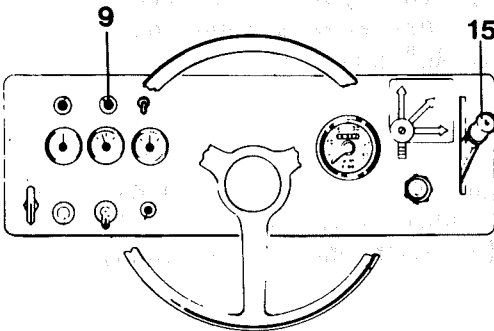

Fig 9
- 3 Release the handbrake (2), by moving the lever forward and down. The handbrake warning lamp (9, in Fig. 9) should then go out.